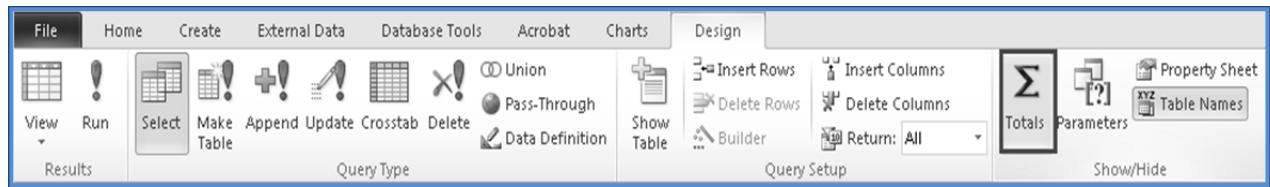

Fig. 1.2.30: Click on Totals button
4. Click the **Totals** button in the **Show/Hide** group on the **Design** tab, as shown as Fig. 1.2.30.